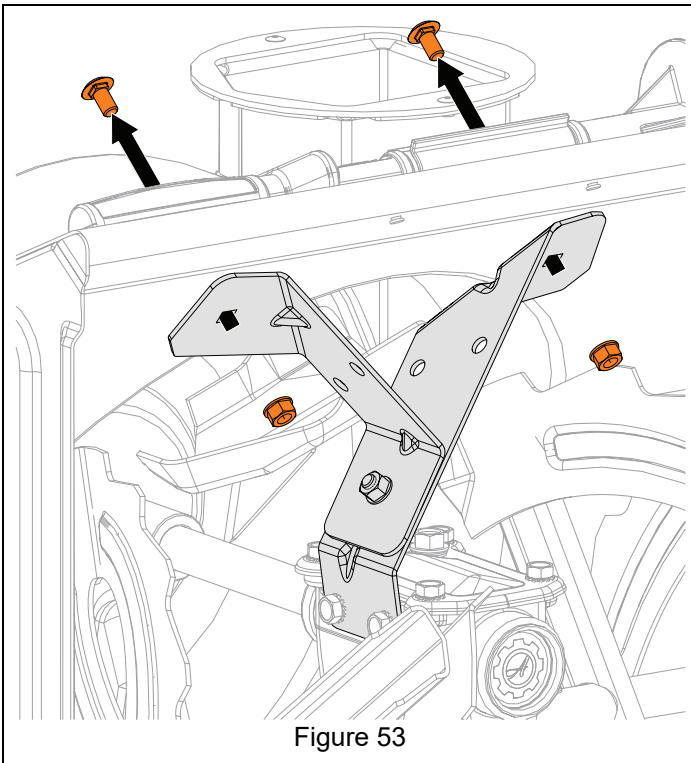

Figure 53
8. Remove hardware retaining gearcase support brackets to auger housing. See Figure 53.